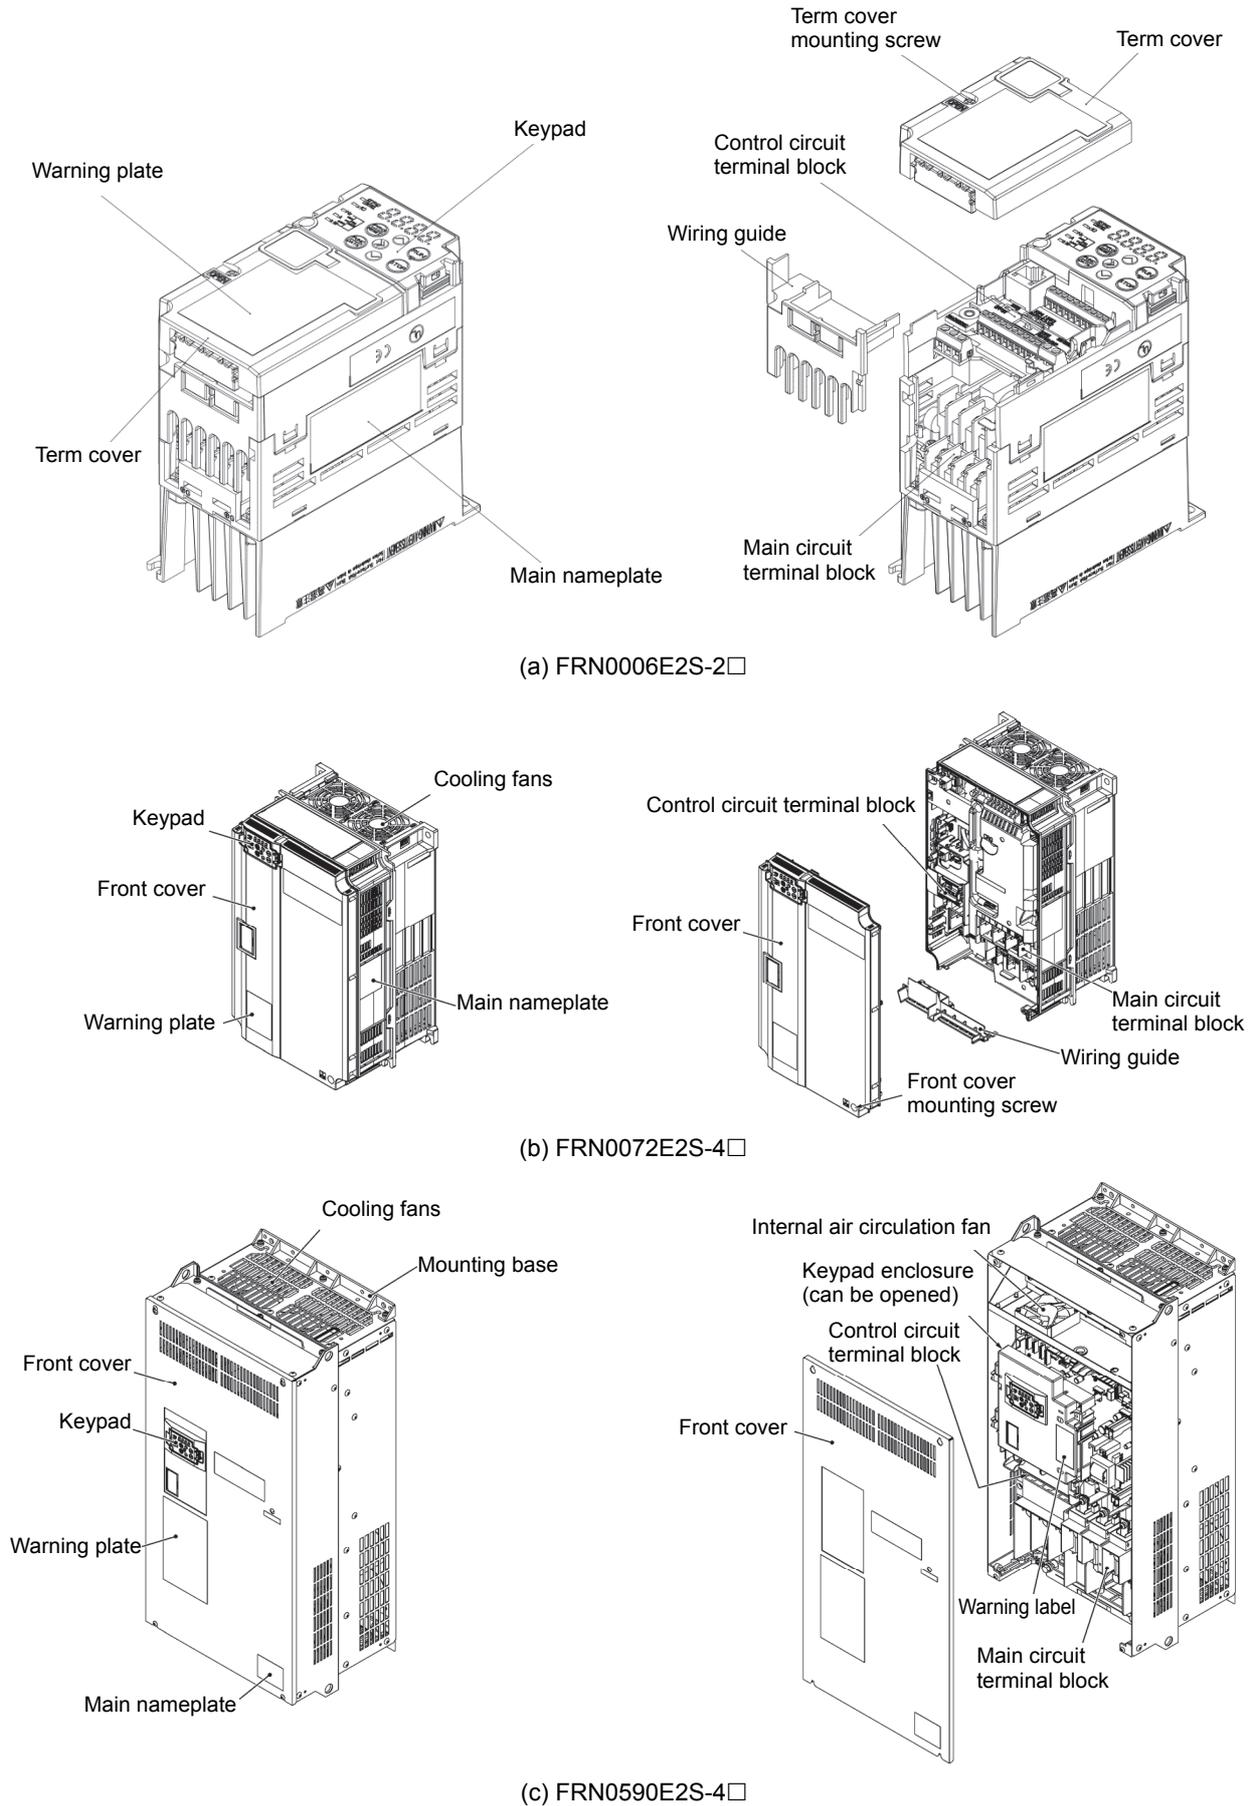

Figure 1.2-1 Outside and Inside Views of Inverters
- (1) An inverter and the following accessories are contained in the package.
- (2) The inverter has not been damaged during transportation—there should be no dents or parts missing.
- (3) The inverter is the type you ordered. You can check the type and specifications on the main nameplate. (The main and sub nameplates are attached to the inverter as shown on Figure 1.2-1.)